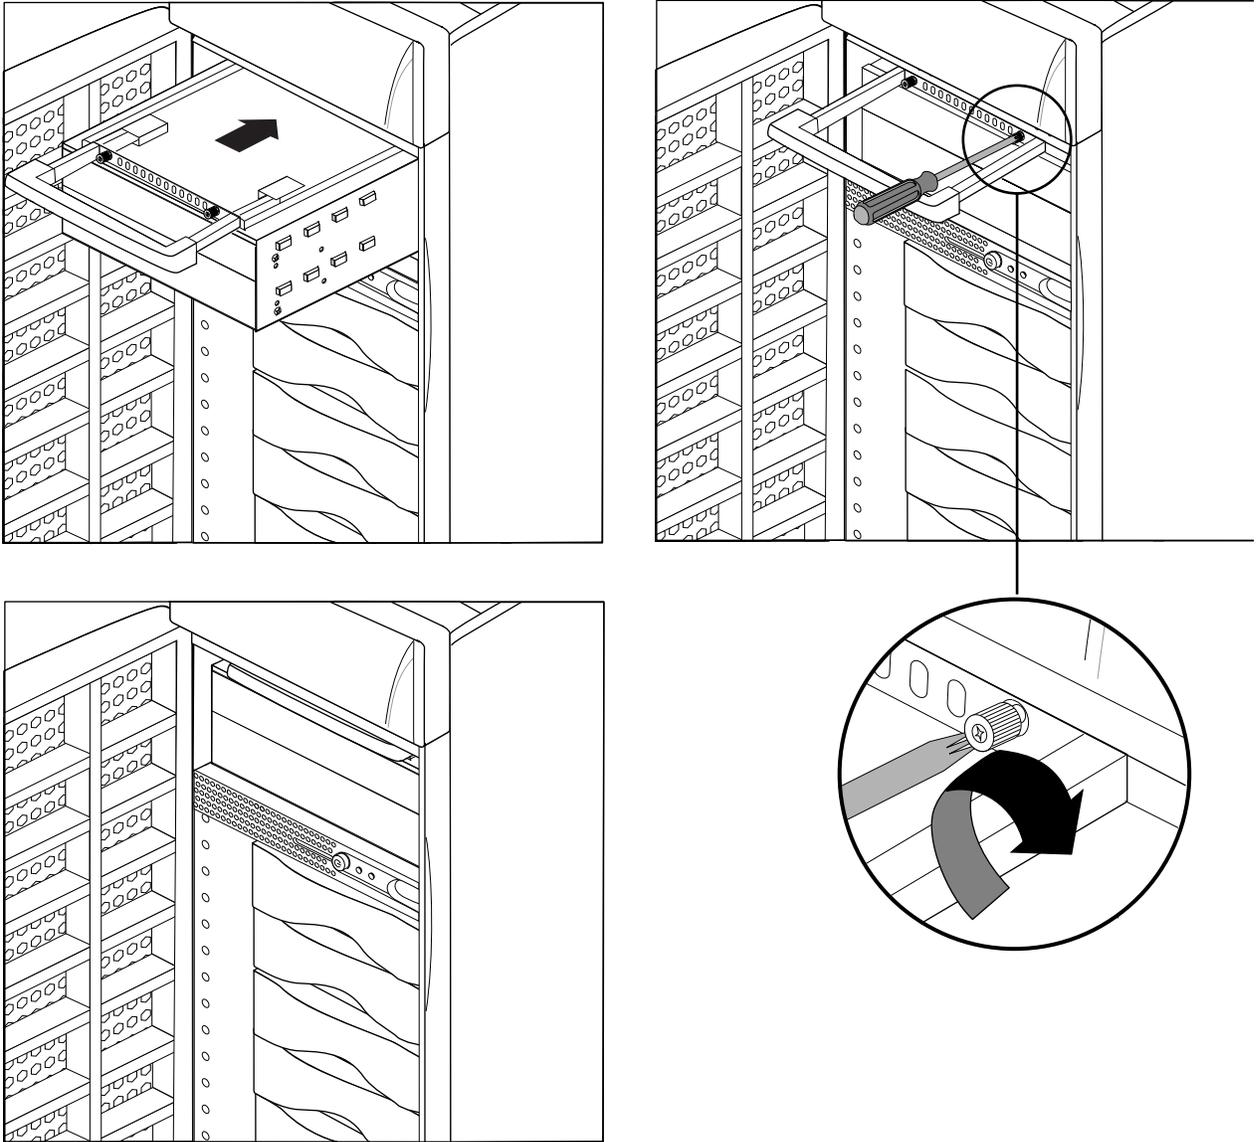

Figure 7-6 Replacing the 5.25-Inch Peripheral Carrier
6. Slide the carrier into the system and secure it with the two captive screws. See Figure 7-6.